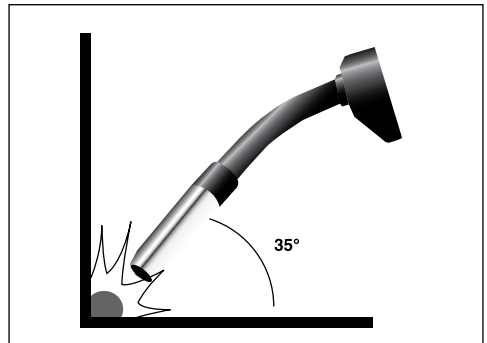

Fig. 9
8.3 MIG Welding Principles – Figs. 9 – 10